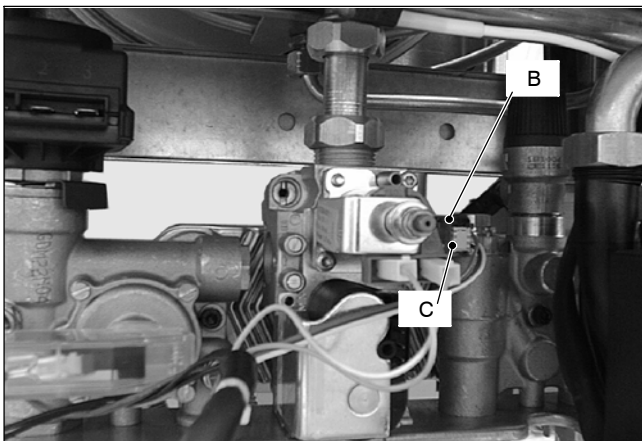

Fig. 60
- 2 Switch on the boiler and open a d.h.w. tap. The lamp *B* (Fig. 60) placed on the sensor body is switched on when the flow rate reaches about 2,5 litres/min'.
- 2 Disconnect the connector *C* (Fig. 60) and remove the sensor by delicately levering downwards with a screwdriver.